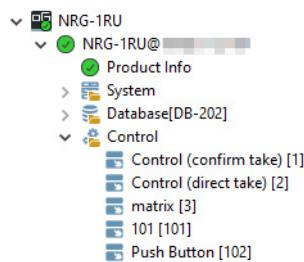

Figure 49 Example of Soft Panel Nodes
This name is used to identify the panel in the Control > Panels tree (see Figure 49).
3. If required, use the  buttons to determine the position of the panel in the Panels list. This also determines the priority of the panels in the Control > Panels tree (see Figure 49).
Once created, the soft panel is listed as a sub-node in the NRG > Control tree. The hierarchy of the nodes in the tree is determined by their Panel ID which is assigned when the soft panel is created in the database. Double-click a sub-node to display the corresponding soft panel in the DashBoard window. In **Figure 49** there are five soft panels in the tree view including the default panels (the top two sub-nodes).